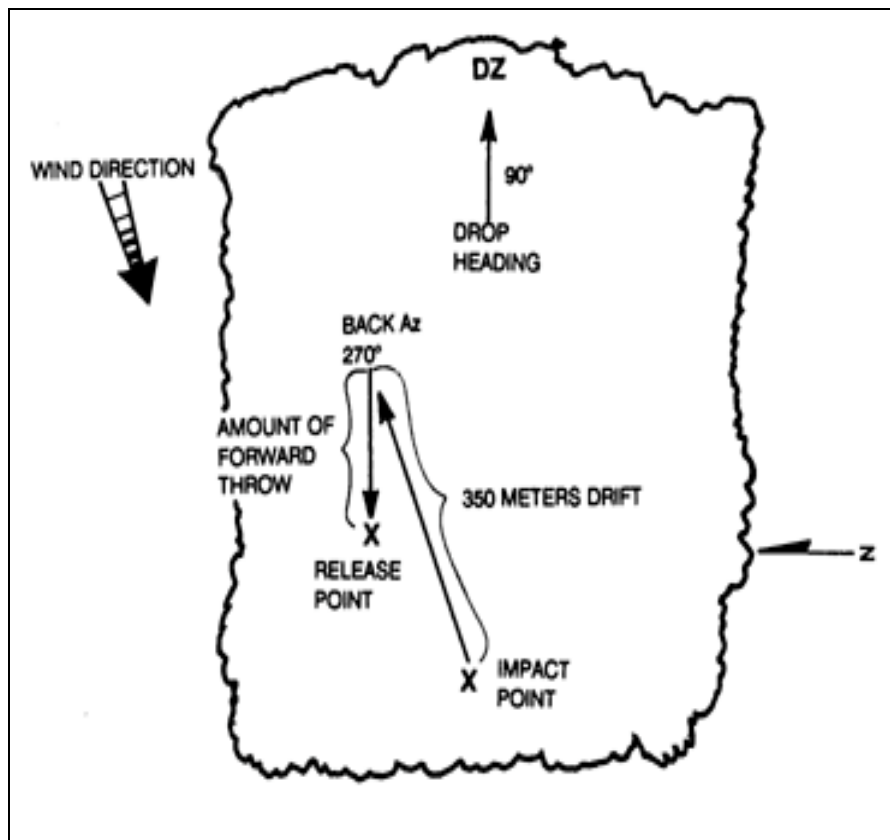

Figure 6-7. Release point location.
To determine a release point on a GMRS drop zone, Air Force fixed wing VIRS drop zone, or Army rotary wing VIRS drop zone (Figure 6-7, page 6-20)--
b. Chooses the VIRS DZ just as he would choose a GMRS or rotary-wing VIRS release point. (Figure 6-7, page 6-20, shows how to determine the location of the release point.) Unlike those release points, however, the USAF VIRS DZ RP requires no markings.